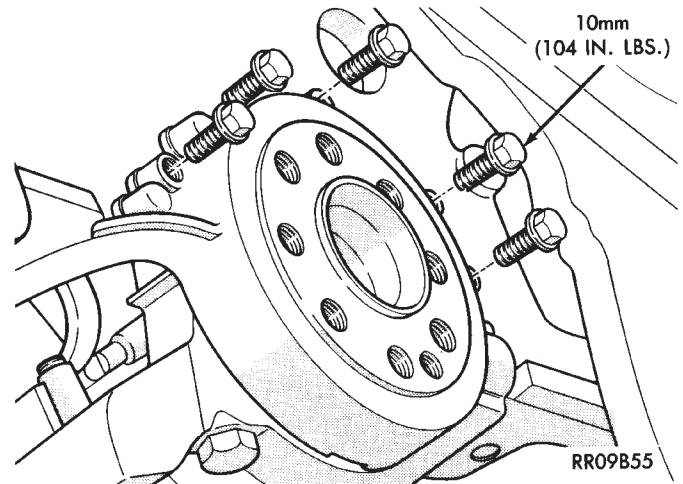

Fig. 81 Crankshaft Oil Seal Retainer—Rear
- (1) Remove transaxle from vehicle. Refer to Group 21, Transaxle for procedure.
- (2) Remove flex plate.
- (3) Remove oil pan. Refer to procedure in this section.
- (4) Remove bolts attaching oil seal retainer to cylinder block (Fig. 81).
- (5) Remove oil seal and retainer.
- (6) Remove oil seal from retainer.